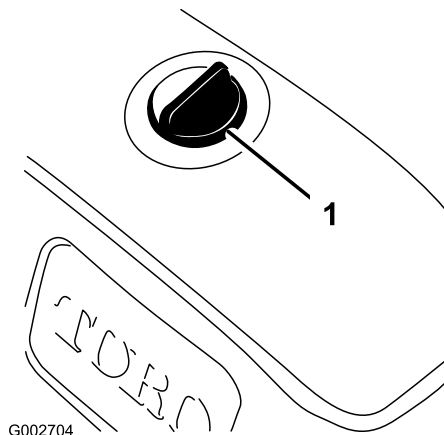

Figure 17
- Mobil EAL EnviroSyn H 46 (US)
2. Clean the area around the hydraulic-reservoir cap to prevent debris from entering the tank (Figure 17).